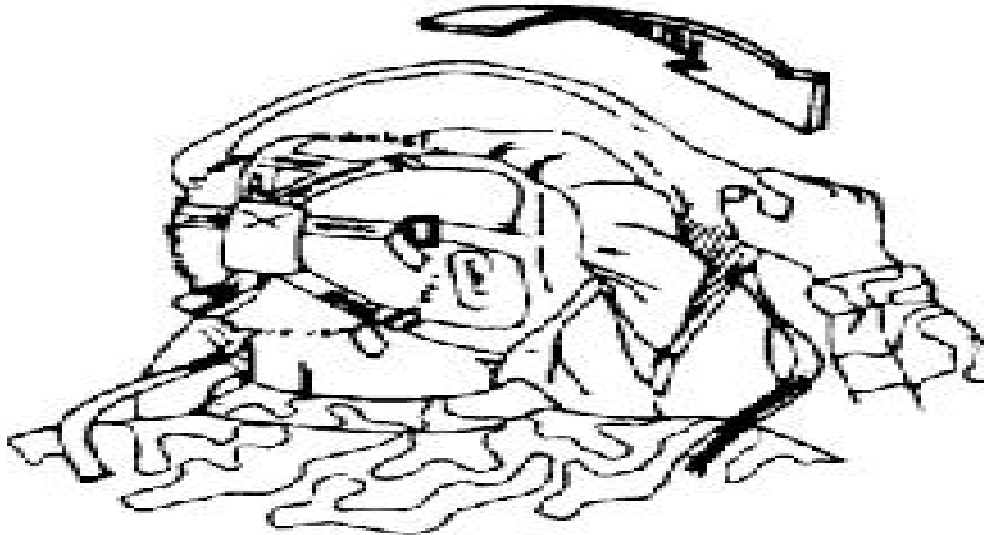

Figure E-75. Pulling hood over front of facepiece.
- (1) Unfasten the underarm straps.
- (2) Loosen the neck cord.
- (3) Unzip the zipper by holding the lower part of the zipper and pulling the zipper upward.
- (4) Place both hands on the back edge of the hood skirt.
- (5) Raise the hood above your head, pulling it over the front of the facepiece (figure E-75).